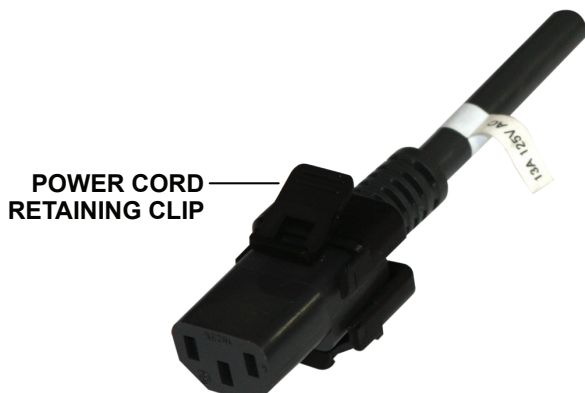

Figure 4-4. Power Cord
1. Ensure the power cord is not frayed, pinched, or otherwise damaged (Figure 4-4).